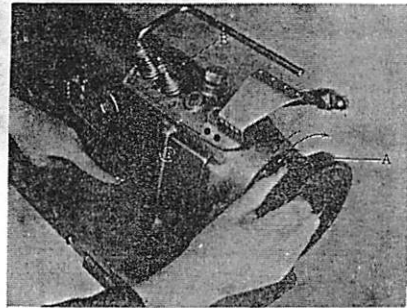

Fig. 26
Now, press the button (11, Fig. 26) and at the same time turn balance wheel over toward you to increase length of stitch or over from you to shorten stitch, until desired length on the stitch indicator. Then, release the button (H) and turn the plunger (G) until it springs outwardly. Then, the machine is ready for operation.